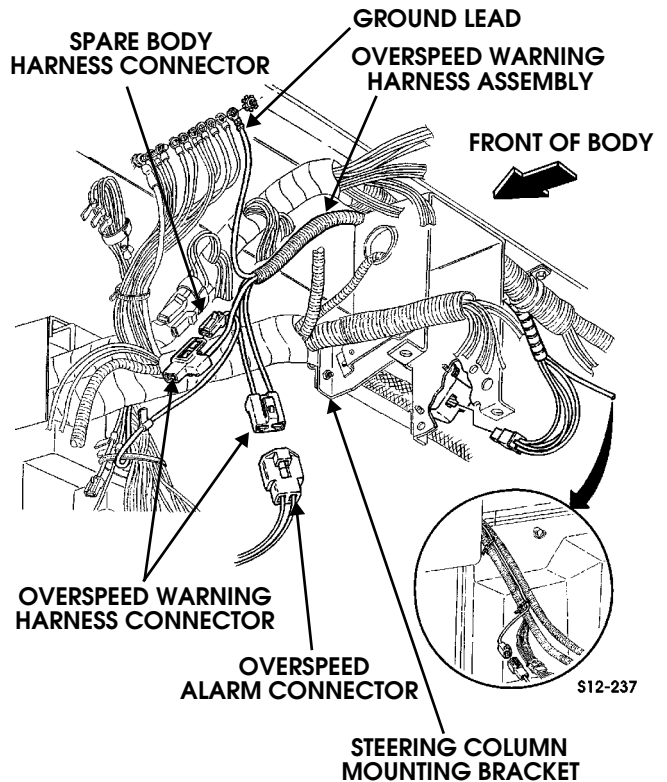

Figure 12-138: Overspeed Warning Harness Connectors
4. Disconnect overspeed warning harness connector from overspeed alarm connector (Figure 12-138).
1. Attach ground lead to ground stud with nut (Figure 12-138).